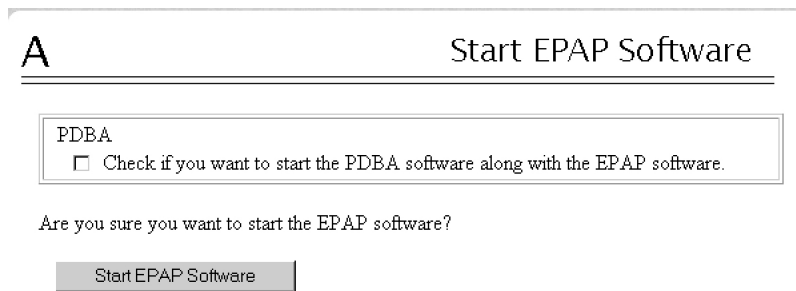

Figure 61: Start EPAP Software
7. From the **Start EPAP Software** screen, make sure that the check boxes are checked as shown in Figure 61: Start EPAP Software: